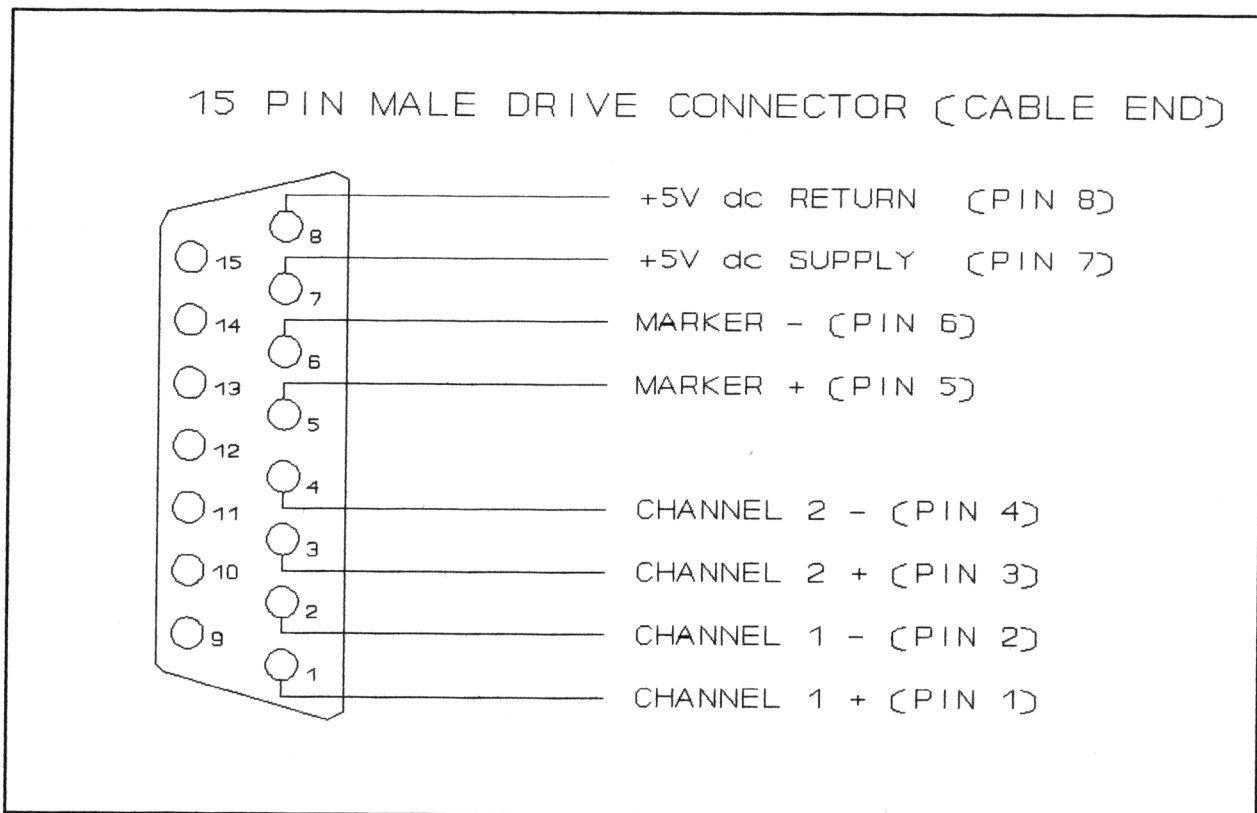

Figure 8-5 DRIVE Connector Encoder Interface Connections
5. Apply the 5V dc source to pin 7 on the MALE (cable end) 15 pin DRIVE connector, and the source ground to pin 8 (Figure 8-5).
6. Connect the positive meter lead to pin 1 and the negative to pin 2 on the 15 pin DRIVE connector (Figure 8-5).
8. Connect the positive meter lead to pin 3 and the negative to pin 4 on the 15 pin DRIVE connector (Figure 8-5).
10. Connect the positive meter lead to pin 5 and the negative to pin 6 on the 15 pin DRIVE connector (Figure 8-5).